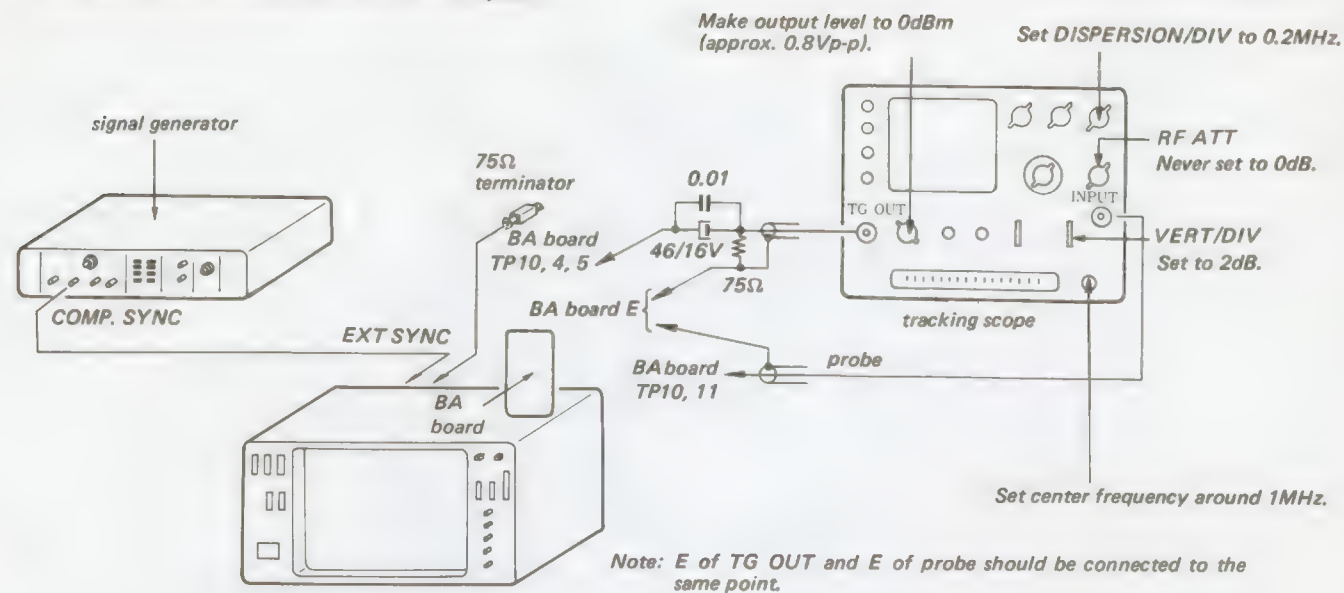

Fig. 5-45.
1. Complete the connections as shown in Fig. 5-45.
2. Connect the TG OUT of the tracking scope to TP 10 on the BA board via a capacitor and the probe also to TP 10. (See Fig. 5-45.)
Note: The probe and the connection cable should be identical with those used in Fig. 5-45.